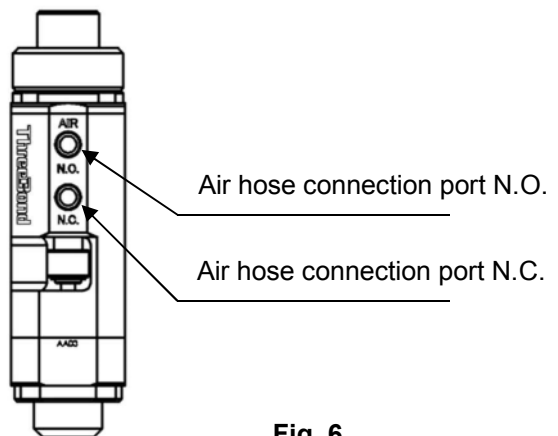

Fig. 6
- Air hose connection port N.O.: Rc 1/8 (see **Fig. 6**)
- Air hose connection port N.C.: Rc 1/8 (see **Fig. 6**)